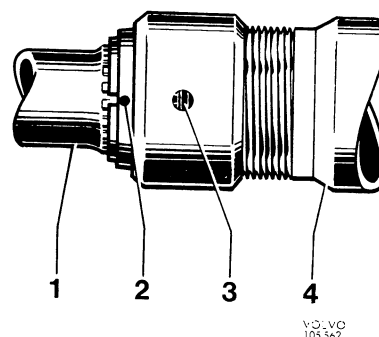

Fig. 6-46. Nut locking
4. Adjust the location of the steering box so that the least possible tension is obtained in the clutch disc. Tighten the attaching bolts. Tighten the nut on the tensioning sleeve to a torque of 3—5 kpm (22—36 lb.ft.) and lock it with punch pops on the slit of the tensioning sleeve, see Fig. 6-46.